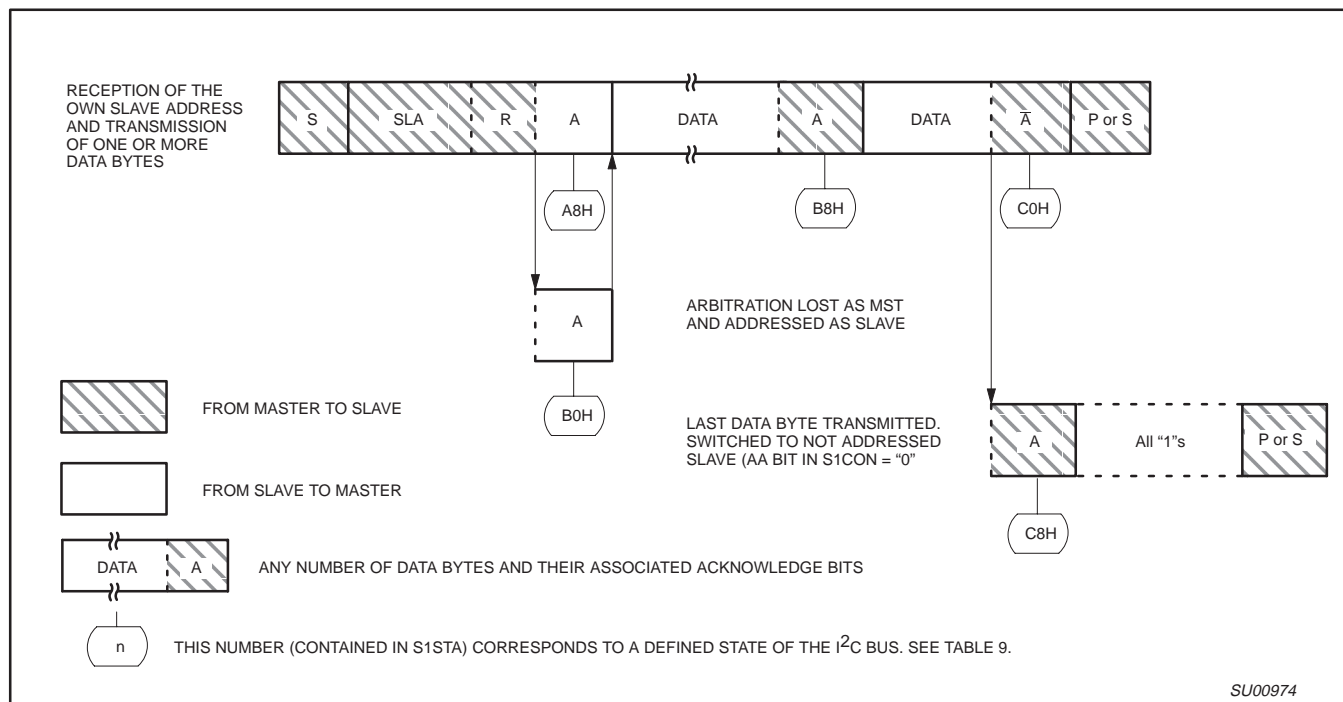

Figure 43. Format and States of the Slave Transmitter Mode
When SIO1 is in the addressed slave transmitter mode, state C8H will be entered after the last serial is transmitted (see Figure 43). When SI is cleared, SIO1 leaves state C8H, enters the not addressed slave receiver mode, and the SDA line remains at a high level. In state C8H, the AA flag can be set again for future address recognition.
**Slave Transmitter Mode:** In the slave transmitter mode, a number of data bytes are transmitted to a master receiver (see Figure 43). Data transfer is initialized as in the slave receiver mode. When S1ADR and S1CON have been initialized, SIO1 waits until it is addressed by its own slave address followed by the data direction bit which must be “1” (R) for SIO1 to operate in the slave transmitter mode. After its own slave address and the R bit have been received, the serial interrupt flag (SI) is set and a valid status code can be read from S1STA. This status code is used to vector to an interrupt service routine, and the appropriate action to be taken for each of these status codes is detailed in Table 9. The slave transmitter mode may also be entered if arbitration is lost while SIO1 is in the master mode (see state B0H).